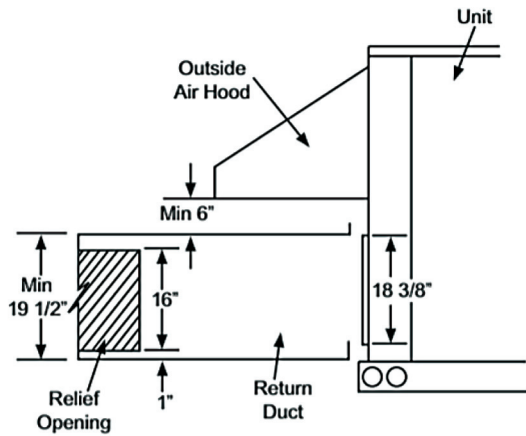

Fig. 30 — Relief Damper
1. Install the field provided horizontal ductwork onto the unit. Duct height must be at least 19 1/2 inches high, however the duct can be no taller than the top of the relief opening in the bottom panel, or airflow into the outside air hood will be restricted. See Fig. 30.
2. Cut a 16 in. x 36 in. opening in the return duct for the relief damper (see Fig. 30).